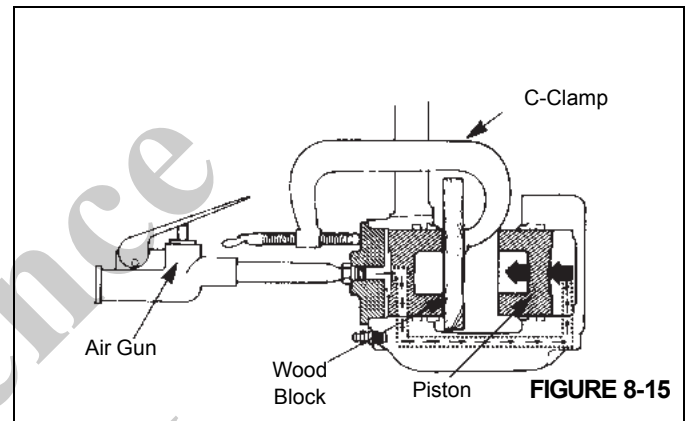

FIGURE 8-15
- b. Apply compressed air to the inlet fitting to force the pistons out of the other housing. If one piston comes out before the other piston, put a piece of wood in front of the piston that comes out first. Apply compressed air to force the other piston out of the housing. Refer to (Figure 8-15).